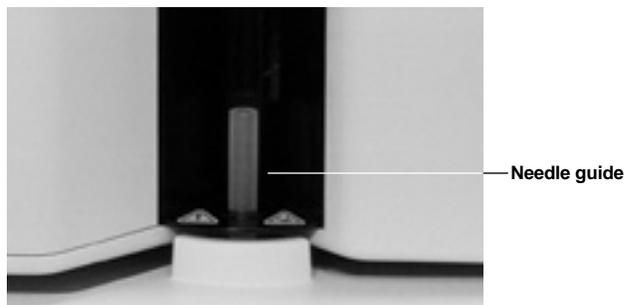

Fig. 9. Needle guide positioning.
3. Install the needle guide (translucent plastic tube shipped with the microplate platform) by screwing it into the microplate platform as shown in Figure 9. It may be necessary to slightly move the position of the array reader to allow for complete installation of the needle guide.